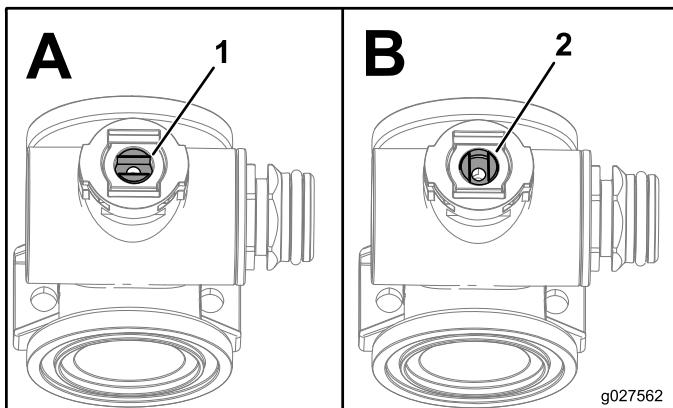

Figure 1
9. Position the valve stem so that it is closed (Box B; Figure 1).
12. Turn the valve stem so that the ball is in the open position (Box A; Figure 1).